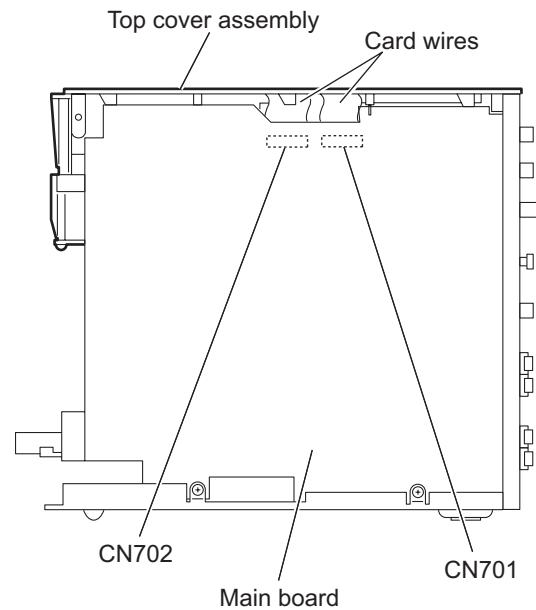

Fig.10
- From the right side of the main body, disconnect the card wires from the connectors (CN701, CN702) on the main board. (See Fig.10.)